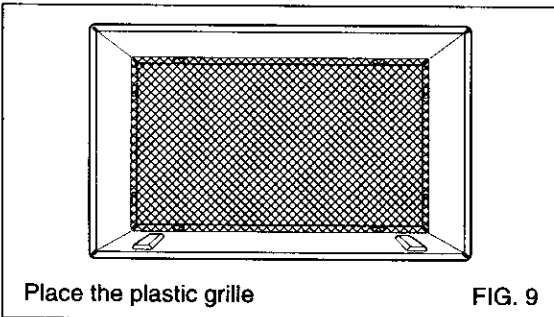

FIG. 9
- 6** Remove the backing from the support blocks and attach them to the inside of the wall sleeve as shown FIG 9. Slide the baffle into slots of the support blocks.